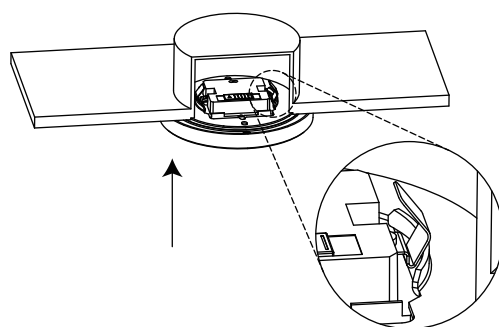

fig. 4
5. Align the fixture's spring clips with the bracket's insert tabs, then push the fixture up into the bracket until it clicks into place. Ensure all wires are tucked inside the J-box and that the downlight is flush with the ceiling. (fig. 4)